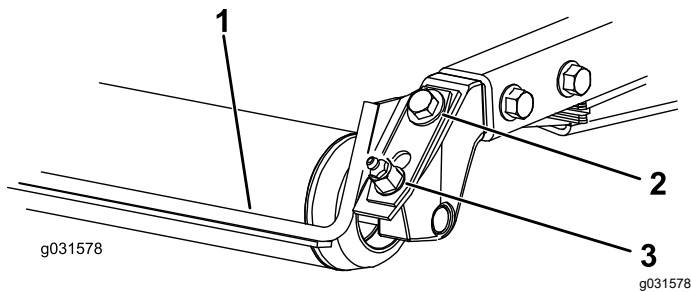

Figure 21
1. Loosen the grease fitting and the mounting screw (Figure 21).